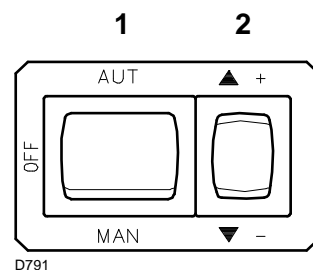
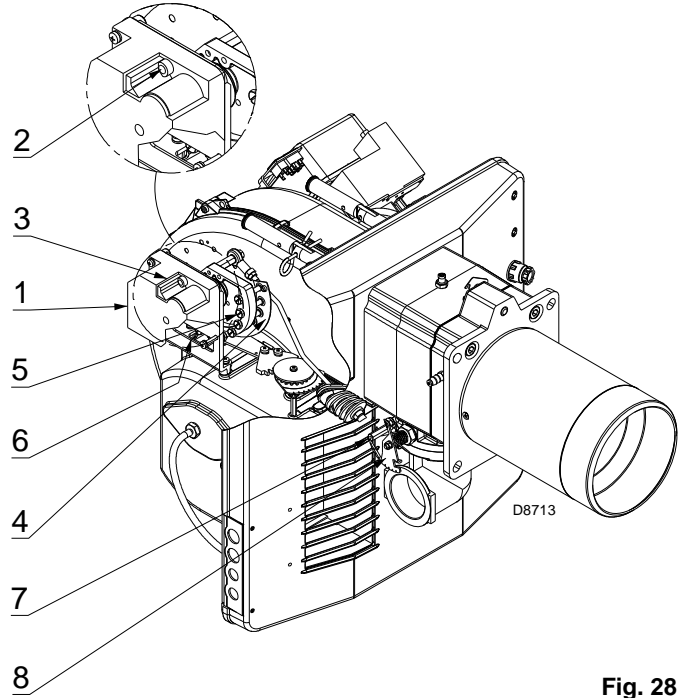
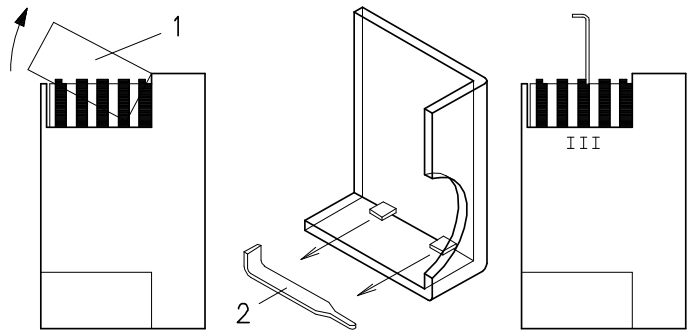

Fig. 27
Fig. 28
Fig. 29
Close the thermostats/pressure switches and turn the switch of Fig. 27 to position "MAN".
Now press the button 2)(Fig. 27) "output increase", and keep it pressed until the servomotor has opened the air damper and the gas butterfly valve at 90°.
Progressively adjust the end profile of cam 4)(Fig. 28) by turning the cam adjustment screws as they are visible through the access opening 6 (Fig. 28).
Press the button 2 (Fig. 27) "output reduction", and keep it pressed until the servomotor has closed the air damper and the gas butterfly valve at 15° (adjustment made in the factory).
- If it is necessary to reduce it, reduce slightly the angle of cam III (Fig. 29) with small, regular movements, i.e. bring it from an angle of 15° to 13° - 11°....
- If it is necessary to increase it, press slightly the button "output increase" 2)(Fig. 27) (open by 10-15° the gas butterfly valve), increase the cam III angle (Fig. 29) with small, regular movements, i.e. bring it from an angle of 15° a 17° - 19°....
If it is necessary to adjust cam III, remove the cover 1)(Fig. 29), inserted with a trigger catch, as indicated in Fig. 29, extract the special key 2)(Fig. 29) from inside, and insert it in the notch of cam III.
Progressively adjust the end profile of cam 4)(Fig. 28) by turning the cam adjustment screws as they are visible through the access opening 6)(Fig. 28).
Press the key 2)(Fig. 27) "output increase" a little so that a new screw 5)(Fig. 28) appears in the opening 6)(Fig. 28), adjust it until optimal combustion is obtained. Proceed in the same way with the other screws.
Take care that the cam profile variation is progressive. Switch the burner off with switch 1)(Fig. 27), OFF position. Release the adjustable profile cam by setting the servomotor slot 2)(Fig. 28) in a vertical position and check several times that by rotating the cam forwards and backwards by hand, the move-